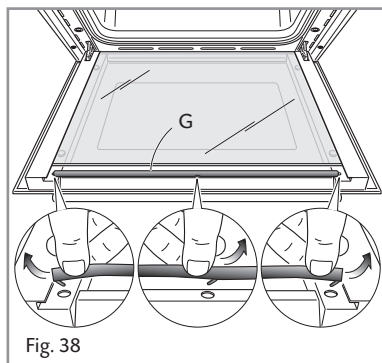

Fig. 38
- Remove the seal **G** by unhooking the no. 3 fixing hooks (fig. 38).